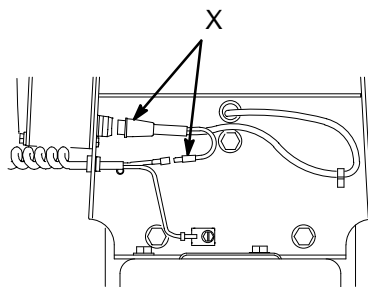
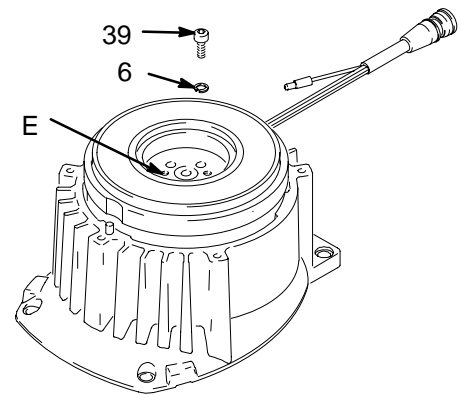
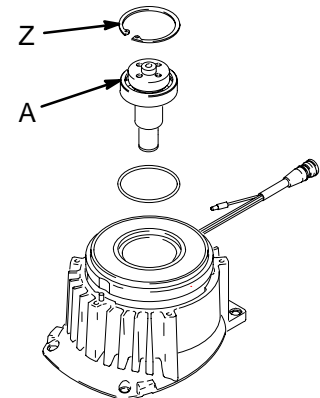

Fig. 5 Bottom View 8739A
Fig. 7 8701A
Fig. 8 8703A
4. Fig. 7. Place pinion assembly (8) on bench with rotor side up.
5. Remove four screws (39) and lockwashers (6). Install two screws in threaded holes (E) in rotor. Alternately tighten screws until rotor comes off.
6. Fig. 8. Remove retaining ring (Z).
7. Tap pinion shaft (A) out with plastic mallet.
6. Install three screws (27) through mounting plate (D) and into clutch housing (3).
7. Install key (1) in bushing (112). Apply Locktite® to three bolts (112). Install bushing in pulley (2) with three bolts (112b). Install set screw (112a) in bushing. End of jackshaft (3c) must be 0.090 in. below flush with end of bushing.
8. Hold pulley (2) and install four screws (3a) and washers (3h) in hub (3d). Torque to 125 in-lb (14 N·m).
9. Install drive belt shield (74).
10. Push drive housing (12) and pinion housing (8) assembly onto clutch housing (3). Tap lightly on front of bearing housing (17) with a plastic mallet to push drive housing and pinion housing assembly onto clutch housing.
11. Install five screws (5) and lockwashers (6).
12. Fig. 8. Tap pinion shaft (A) in with plastic mallet.
13. Install retaining ring (Z).
14. Fig. 7. Place pinion assembly on bench with rotor side up.
15. Apply locktite to screws. Install four screws (39) and lockwashers (6). Alternately torque screws to 125 in-lb until rotor is secure.
16. Install pinion assembly with five screws (5) and lockwashers (6).
17. Fig. 5. Connect field cable (X) to pressure control.